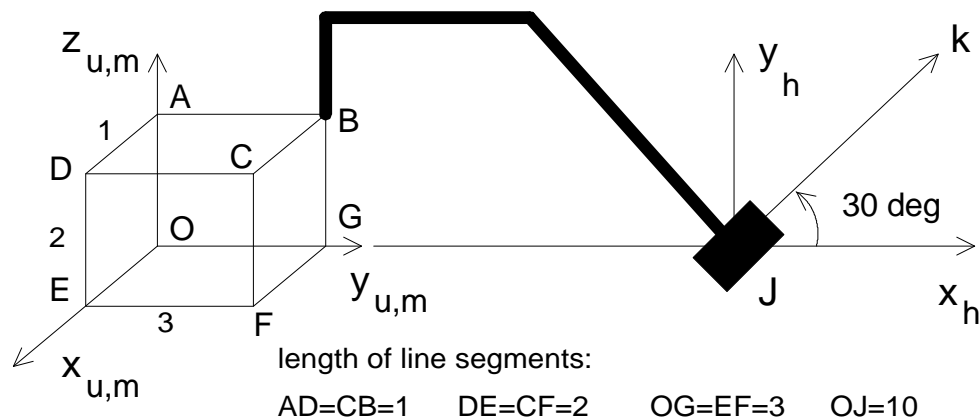

Fig. 1
1. a. Fig. 1 shows a connecting (bent) rod (BJ) rigidly connecting the rotational joint J to the cuboid (ABCDEFGO). Let
- 2> The cuboid (ABCDEFGO), bent connecting rod (BJ), and joint J be all connected as one rigid assembly.
At a certain instant of time, the origin of Frame H (joint J) is translating at a velocity of  ${}^U u_H = (1 \ 2 \ 3)^T$  m/sec, and the cuboid-connecting-rod assembly is rotating about axis **k** at an angular velocity of 10 rad/sec. At this same instant of time the assembly and frames are at the configuration indicated in Fig. 1.